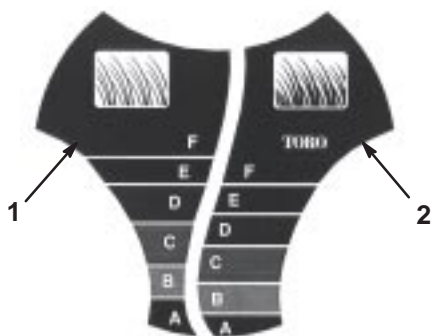

Figure 15
The SmartWheel™ has 2 cutting scales: Sparse/Normal and Lush—to ensure the best cutting height setting in any mowing condition (Fig. 15). Use the Sparse/Normal scale during the warm summer season for the majority of your mowing. The Lush scale is for thick, moist, and succulent grass that grows most often in the spring.
2. Move the lawn mower into the grass; stop moving the lawn mower when the SmartWheel design on one of the rear wheels is upright (Fig. 15).